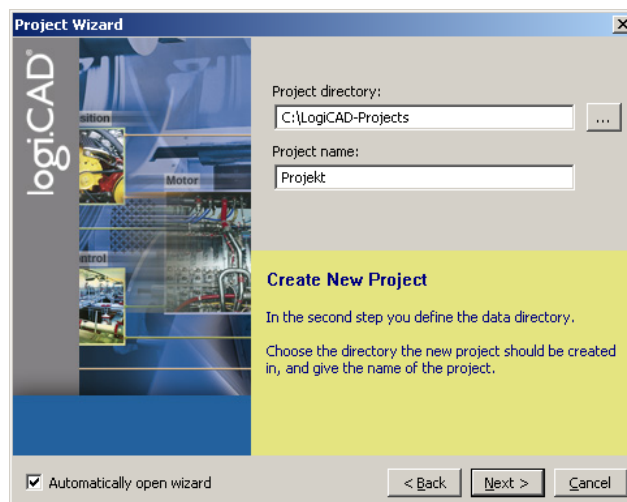

Figure 40: Project name and path
5. Specify the name of the project and the path where to store the project files, see Figure 40.